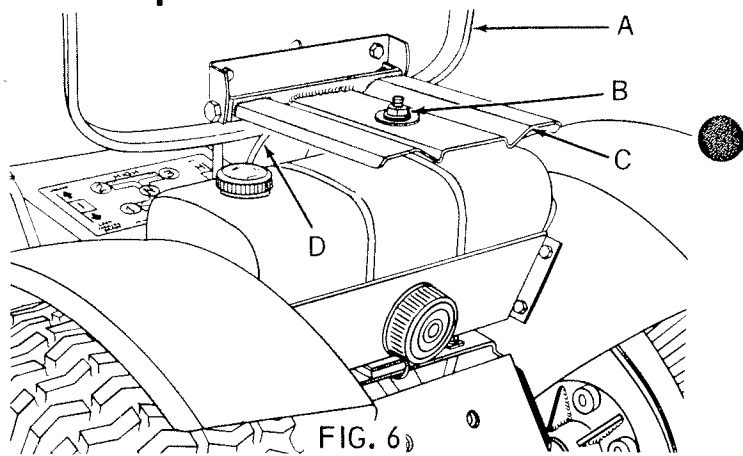

FIG. 6
1. The seat (A), may be moved forward, or backward, to give the most comfortable, and safe operating position. To move the seat, tip seat forward, as shown in Fig. 6. Loosen nut (B) slide seat (A) to desired position. Tighten nut (B) securely. Make sure that seat plate weldment (C), has not twisted out of alignment, with seat spring (D).
NOTE: Gas tank is located under tractor seat. Tilt seat forward, so fuel can be added to gas tank. Refer to Page 5 Fig. 6.